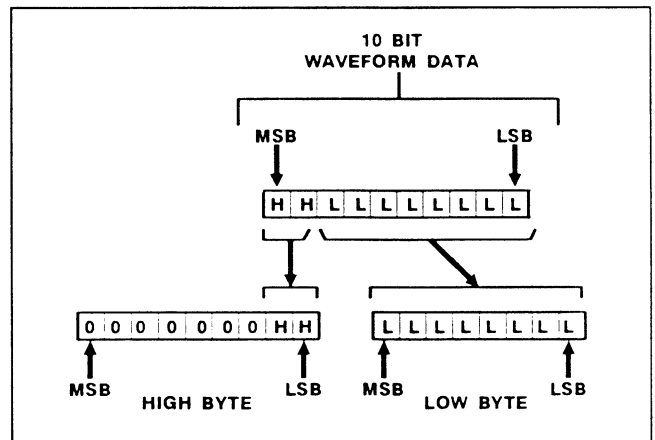

Fig. 5-1. Transfer of 10-bit waveform data.
- <binary point> ::= 10 bits. With 10-bit resolution, each waveform data point is transferred in two bytes: high byte first, then low byte. The 2-MSBs (most significant bits) of the 10-bit waveform data are transferred as the 2-LSBs (least significant bits) of the high byte (the remaining six bits of the high byte are set to zero). The remaining 8 bits of waveform are transferred as the low byte (Fig. 5-1).